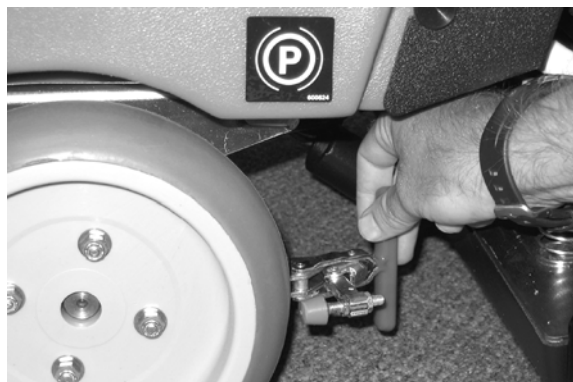

FIG. 6
1. Release the parking brake (Figure 6).